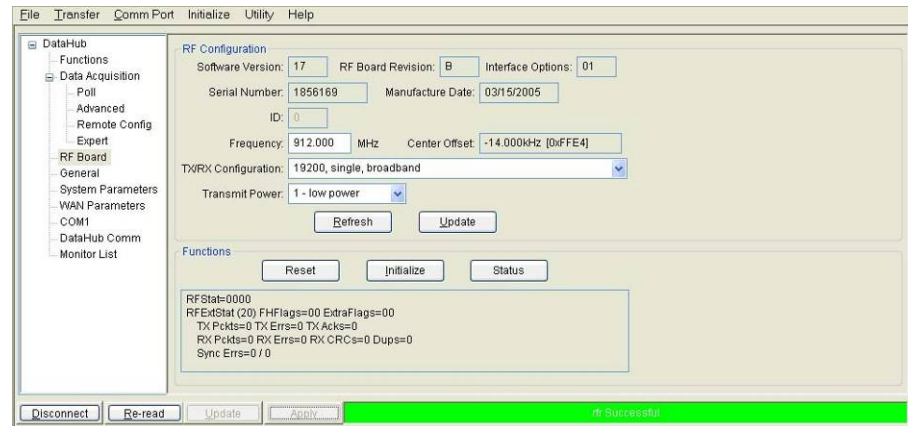

Fig. 8.11: Configure RF Board
8.6.2.4 From the BinComm main menu screen, click on **Comm Port > Configure RF Board** to set the RF Frequency in the Monitor. A screen similar to Fig. 8.11 should appear.